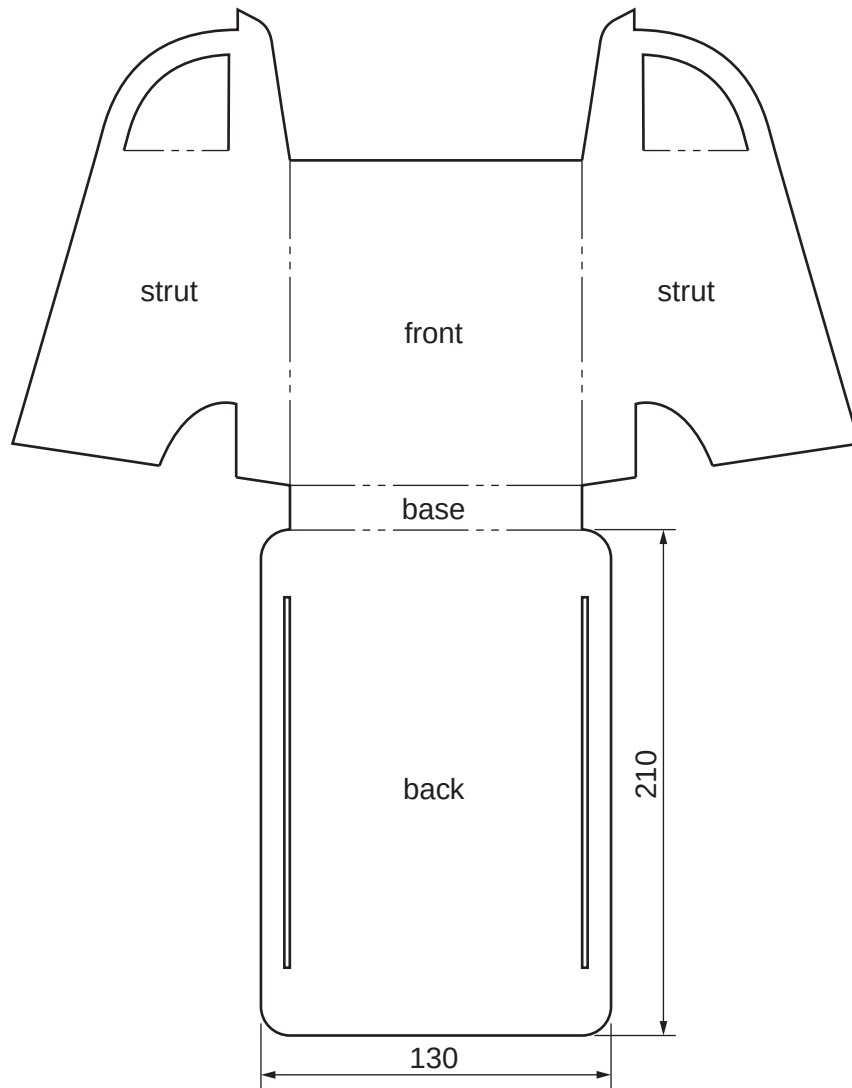

Fig. 2
- 2 Fig. 2 shows the development (net) of a leaflet holder made from card.